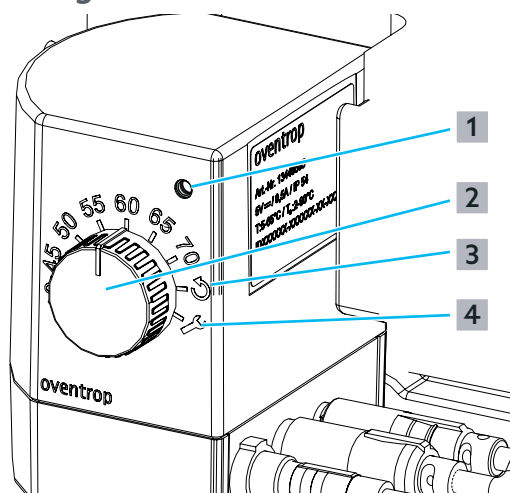

Fig. 20: Status messages and error messages at the actuator
If the rotary knob is set to the error reset index ((3) in Fig. 20 on page 23) for longer than 5 seconds, then the displayed error is reset and a calibration run is started. As long as the rotary knob is set to the error reset index ((3) in Fig. 20 on page 23), a calibration run of the actuator is started again and again, during which the closing point of the control valve is detected.
- ▶ Set the rotary knob to the error reset index ((3) in Fig. 20 on page 23) for longer than 5 seconds to reset an error.